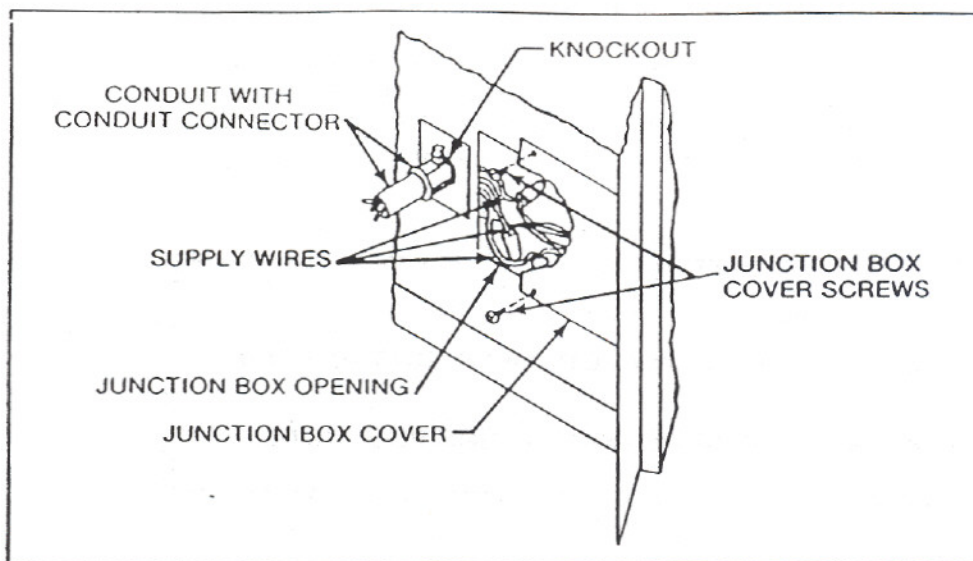

Figure 20
NOTE: Whether intending to install the Fan now, or anticipating installation in the future, it is recommended that you pre-wire the fireplace at the junction box during the installation of the fireplace. Remove the junction box cover located on the left side of the fireplace by removing the two screws used to secure it. Remove the 13/16" diameter knockout by the side of the junction box opening and insert the electrical conduit attached to a 1/2" EMT conduit connector (pressure cast set screw type) through this hole and secure the conduit to the outer shell with the conduit connector lock nut. Firmly attach the supply wires to the appropriately colored receptacle lead wires in the junction box using a 105° C class wire nut that will accept (2) 18 ga. wires. Replace the junction box cover and secure it with the screws previously removed. See Figure 20.